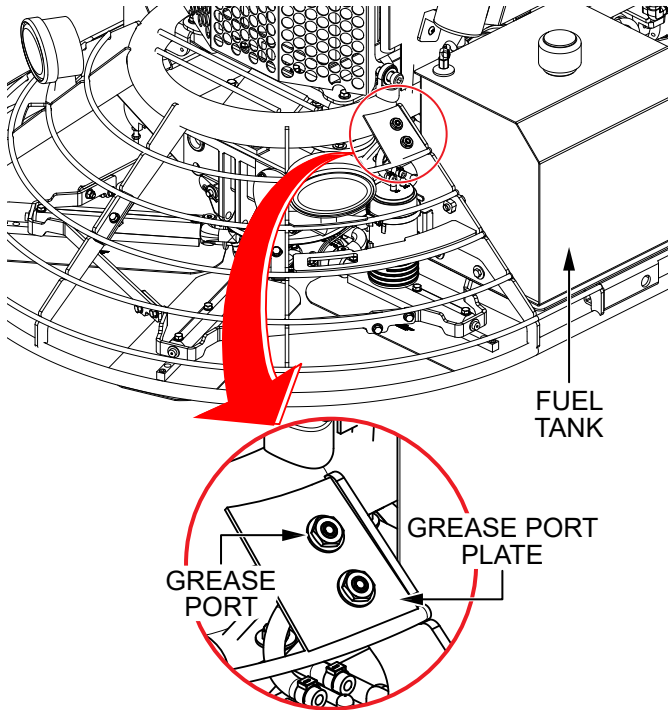

Figure 38. Pillow Block Bearing Lubrication
1. Locate the grease port plate (Figure 38) at the rear of the trowel, just to the left of the fuel tank. These two grease ports lubricate the pillow block bearings.